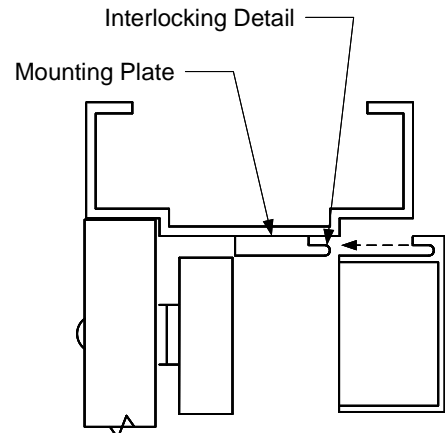

FIG. 4
5. Install mounting plate to header with provided screws, making sure that the interlocking detail is facing away from the door side of the stop (see Fig. 4). For up to 1/8" thick metal applications, use provided #10 self drill/tap screws. For applications with heavier gauge material, drill with a #21 bit and tap for provided #10-32 machine screws.